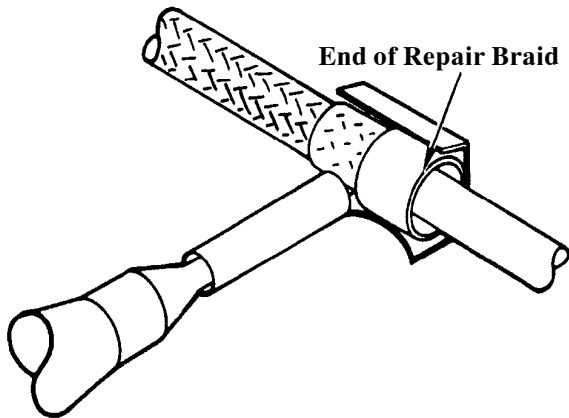

Figure 14. Heating Repair Braid
p. Heat one end of repair braid using HT900B/HT-920B/HT71002/MCH-100-A heat gun with terminal sleeve reflector. Apply heat to overlapping shield area until solder melts and sleeve shrinks down onto cable. Continue heating until solder flows into braid strands. Allow to cool undisturbed until solder solidifies (Figure 14).